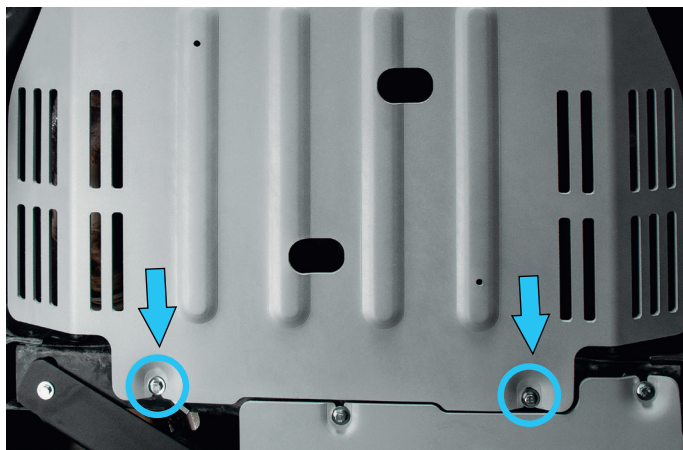

Fig. 7
7. Attach skid plate (item 1) on bolts M8x25 (item C), as shown in fig.7.